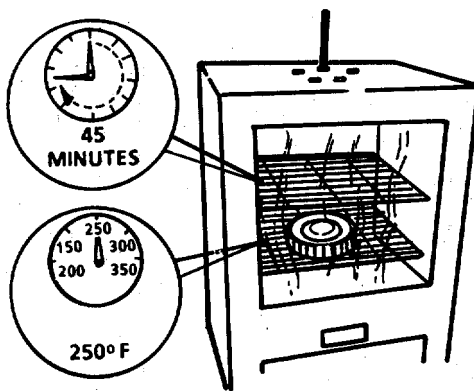

FIGURE 4-67. Heating Crankshaft Gear.
- Use a heavy duty puller to remove the spur gear (1) as shown in FIGURE 4-67.
- c. Heat the crankshaft gear for 45 minutes at 250°F (121°C) as shown in FIGURE 4-67.